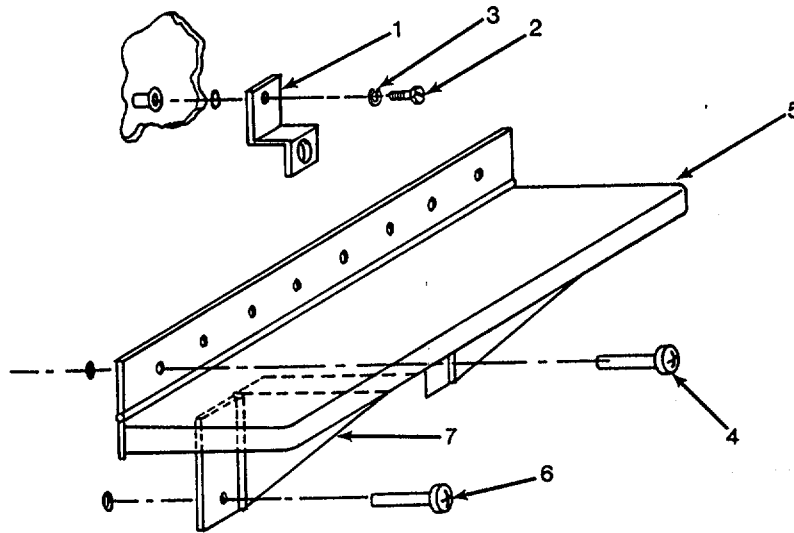

Figure 4-8. Fold Down Artist Shelf
a. Inspect. (See Figure 4-8.)
b. Replace. (See Figure 4-8.)
- (1) Remove holding bracket (1) by loosening thumbscrew (2) and washer (3).
- (2) Remove fold down tray rivets (4) by drilling or chiseling off heads.
- (3) Remove fold down tray (5).
- (4) Remove support rivets (6) by drilling or chiseling off heads.
- (5) Remove supports (7).
- (6) Secure fold down tray supports (7) to shelter wall with rivets (6).
- (7) Secure fold down tray (5) to shelter wall with rivets (4).
- (8) Secure fold down tray (5) with holding bracket (1) using thumbscrew (2) and washer (3).
c. Repair. (See Figure 4-8.)
- (1) Remove fold down tray bends or dents.
- (2) Repair cracks or tears by welding.
- (3) Remove support bends or dents.